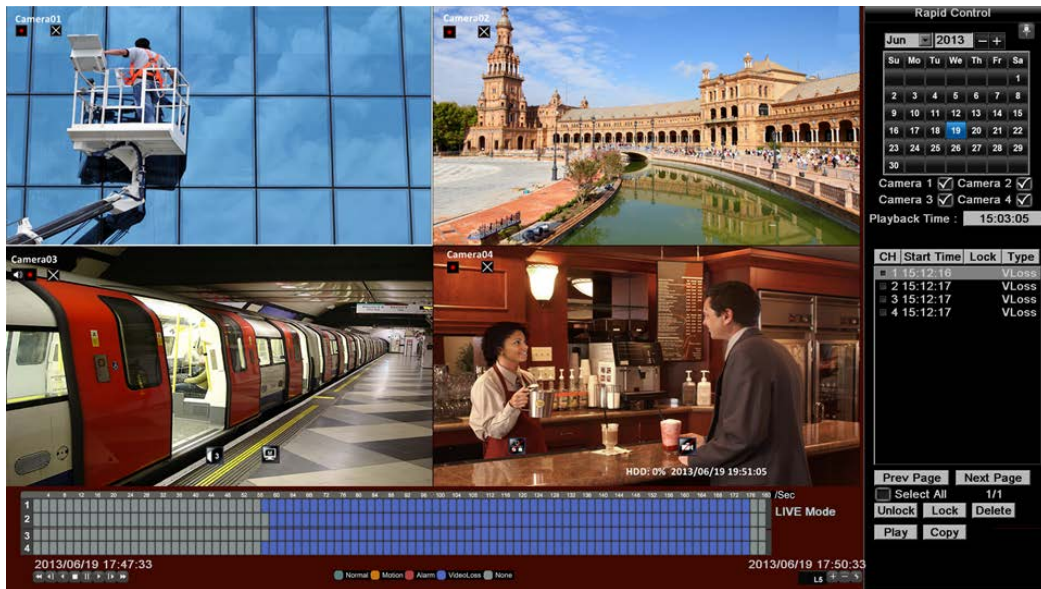

Figure 5-12
2. Click the  button on the Rapid Control Panel to keep the Panel staying on the OSD window and to show the Camera Status Bar at the bottom as in the Figure 5-12.